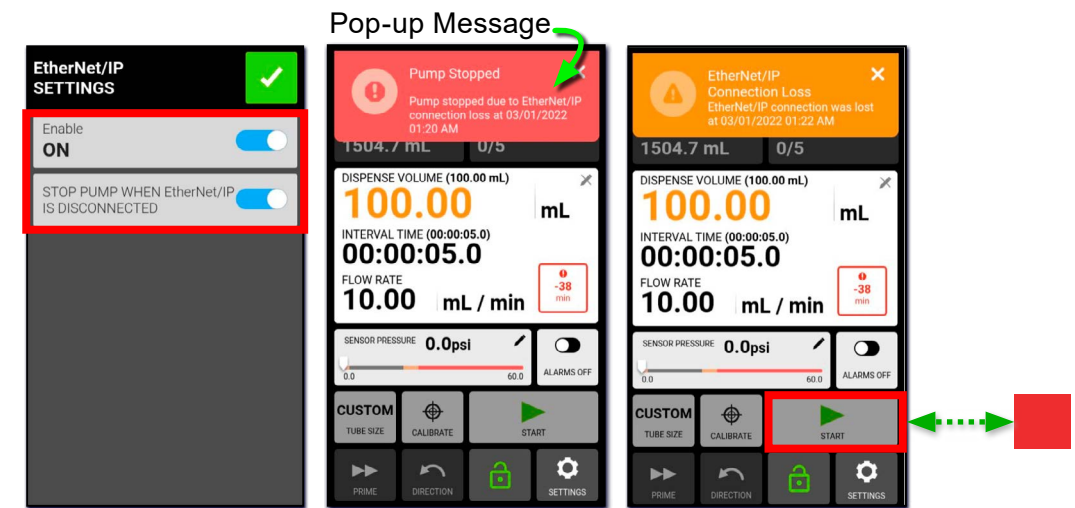

Figure 5
- Once EtherNet/IP is enabled, a slider with the STOP PUMP WHEN ETHERNET/IP IS DISCONNECTED feature setting displays and is active, toggle the slider to the left to deactivate (see Figure 5 below).